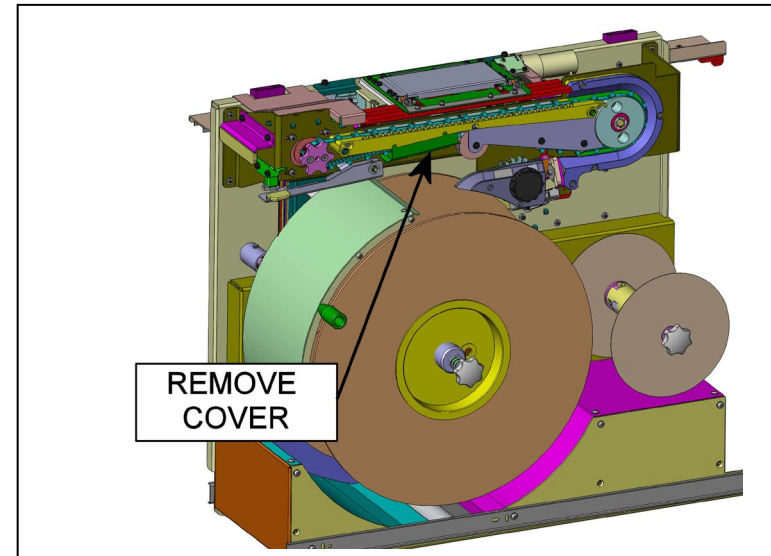

Fig 3
- 3) Remove the cover shown in Fig 3 by removing the two M3 nuts.
- 8) Once the position is near the correct position, install the cover previously removed (Fig. 3).